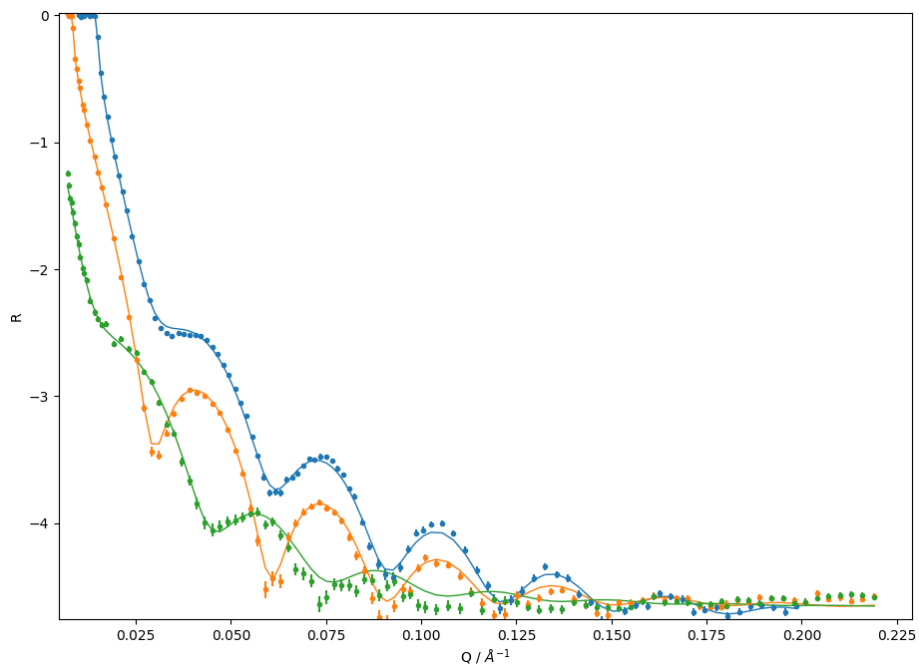
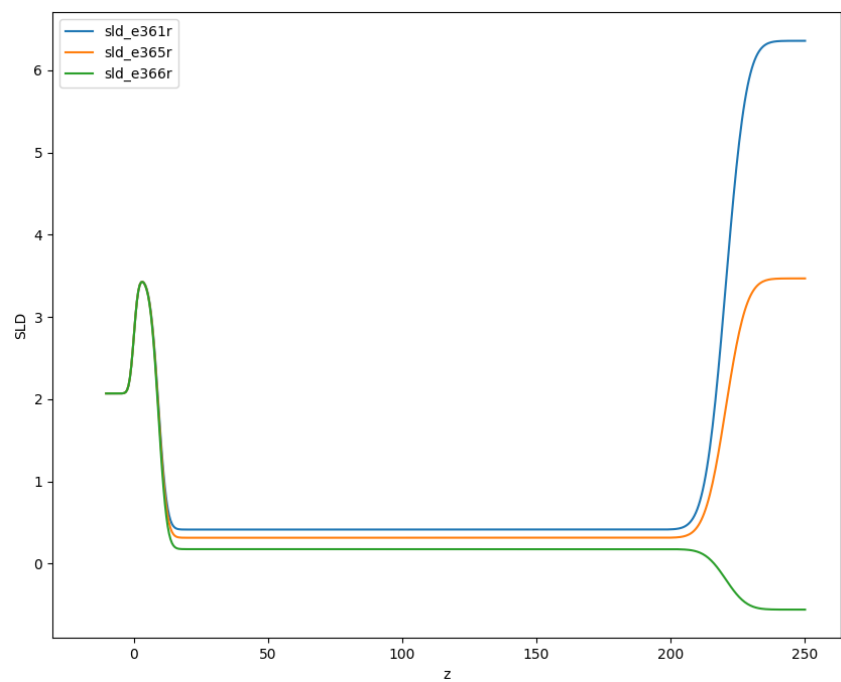

Figure 10
Figure 11
- Do the co-refinement by pressing . Hopefully your graphs look like Figure 10 and Figure 11.